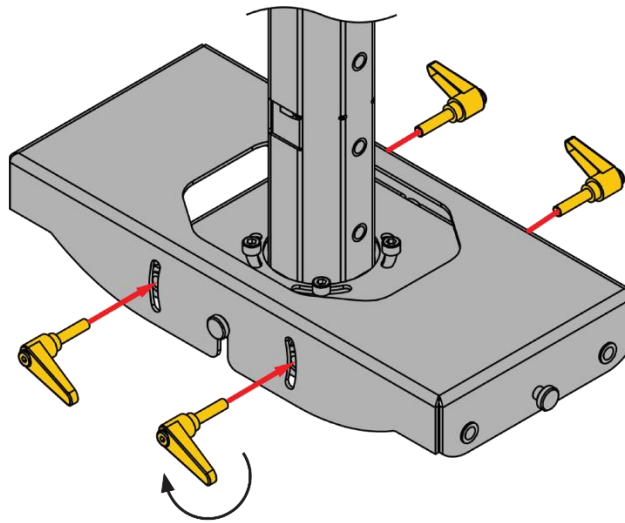

Figure 88: Step 7
Step 7: Tighten the middle plate ⑤ to the top plate ④ with the help of the clamping handles ⑨ (4 pcs.), as shown in **Figure 88**.